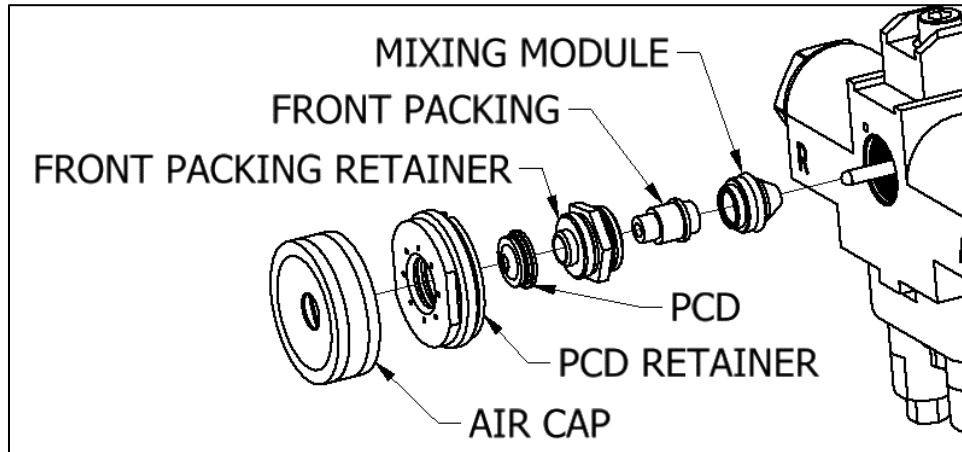
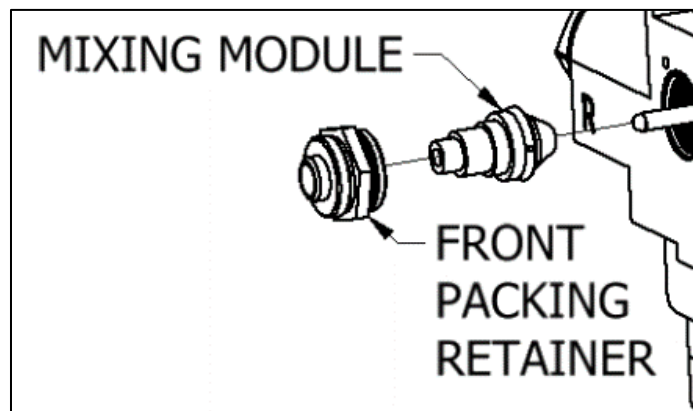

Figure 10: Spray Configuration
Figure 11: Pour Configuration
5. Push **Mixing Module** into **Gun Block** onto **Valving Rod** (See Figure 10 and Figure 11).
13. For pour applications, skip this step. For spray applications, install the **PCD** onto the **Front Packing Retainer** and screw the **PCD Retainer** and **Air Cap** (See Figure 10).